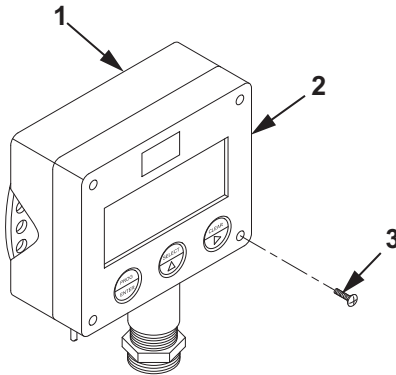

Figure 5. Tank Volume Meter Monitor Removal.
6. Position cover (Figure 5, Item 2) on volume meter (Figure 5, Item 1).
7. Install four screws (Figure 5, Item 3) to secure cover (Figure 5, Item 2) to volume meter (Figure 5, Item 1).
8. Tighten four screws (Figure 5, Item 3).